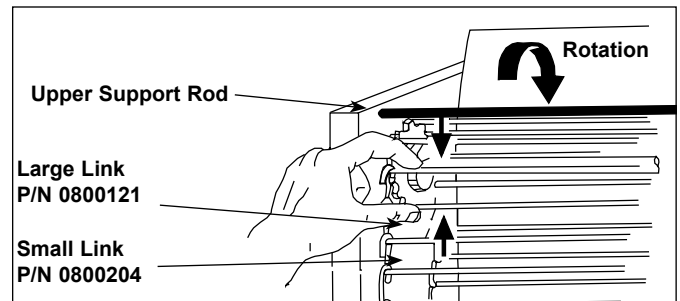

Figure 9. Removing Conveyor Belt
9. Disconnect the Conveyor Belt Chain by squeezing any two links together and unhooking both ends one link (Figure 9). Needle-nose pliers may be used.
5. Disconnect the Conveyor Belt Chain by squeezing any two links together and unhooking both ends of one link (Figure 9).
**NOTE:** The ends of the hooks must point down (Figure 9).